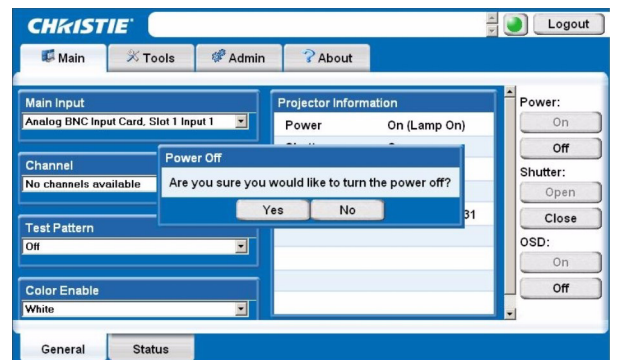

FIGURE 2-18 POWERING DOWN/WEB USER INTER-
1. From the **Main** Tab, Select **Power>OFF**. *NOTE: A window will display for confirmation on powering down, see Figure 2-18.*